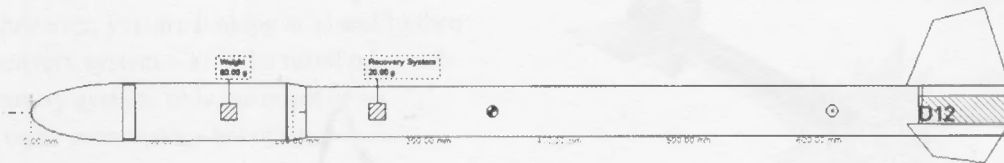

Figure 5-20 Payloader rocket dimensions.
- Nose cone (length 70 mm, diameter 45 mm) (see template, Figure 5-20)
- 45–40 mm transition length 15 mm (see template, Figure 5-20)
- Balsa for fins (see template, Figure 5-20)